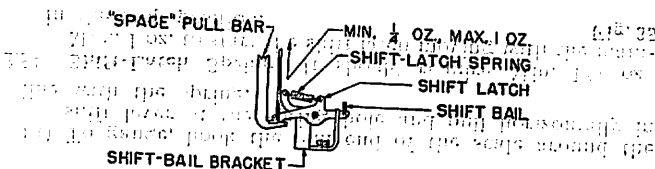

Fig. 35
2.54 **Shift-Latch Spring:** It should require Min. 1/4 oz., Max. 1 oz. to start the shift latch moving with the main-shaft in the stop position. Fig. 35